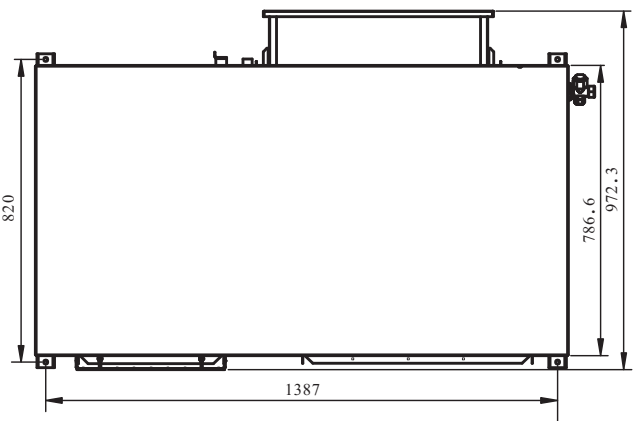

Fig. 3-2 Dimension of Outdoor Unit
2) Fig. 3-2 is applicable for models of GIA-CEN-14KOMP; GIA-CEN-16KOMP